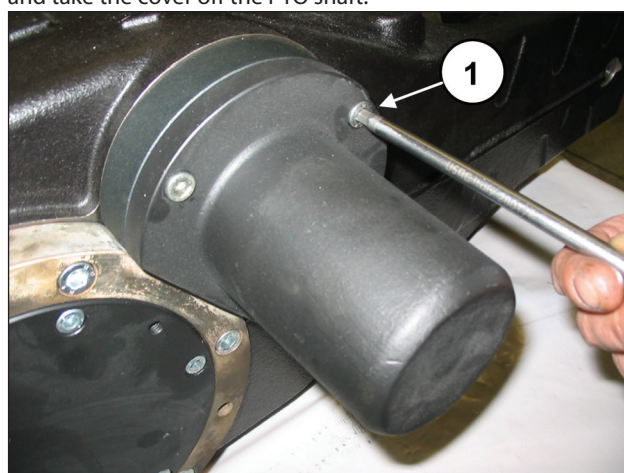

Fig. 9
Undo the fixing screws of the shaft end cover (pos. ①, Fig. 9) and take the cover off the PTO shaft.